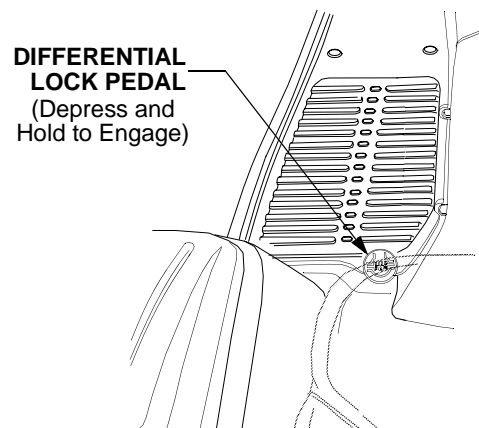

Figure 17
- Fully depress and hold the differential lock pedal to engage the transmission differential lock. Release the pedal to disengage the differential lock. See Figure 17.